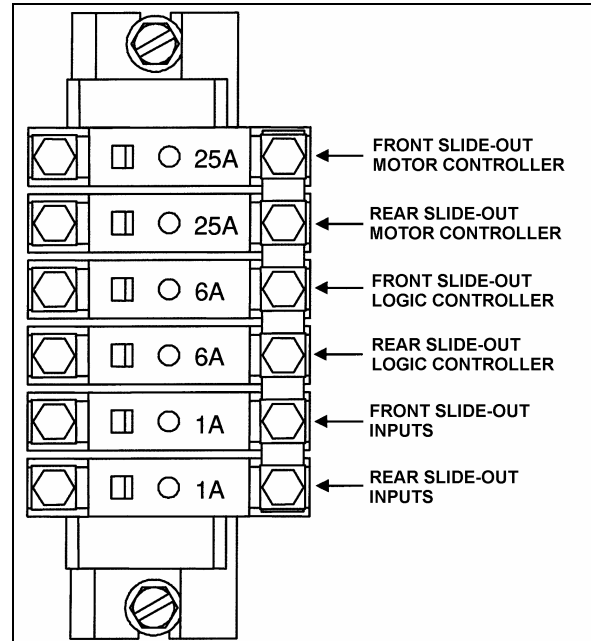

FIGURE 2: CIRCUIT BREAKERS
2. Trip all slide-out circuit breakers (refer to figure 2).